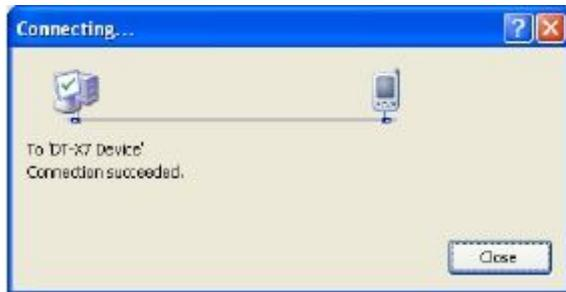

Figure 5.27
6. Select **DT-X7 Device** in the list of **Devices**: and click **Connect** button. The screen in Figure 5.27 if appear indicates the success of connection establishment.